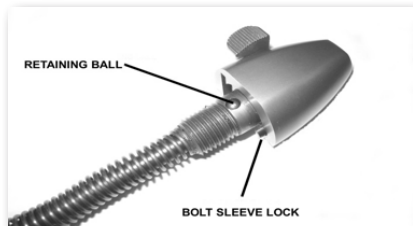

Fig. 7
3. Disengage the bolt sleeve lock (*refer to Fig. 7*) by pushing it in with a blunt object or finger and unscrew the bolt a few turns until the firing pin retaining ball is completely exposed (*refer to Fig. 7*).
1. Hold the bolt sleeve horizontally with the retaining ball hole "UP" (*refer to Fig. 7*).
4. Insert the retaining ball into the retaining ball hole in the bolt sleeve (*refer to Fig. 7*).
6. Push in the bolt sleeve lock (*refer to Fig. 7*) with a blunt object or finger and continue screwing the bolt body onto the bolt sleeve until the bolt sleeve stops against the bolt body.